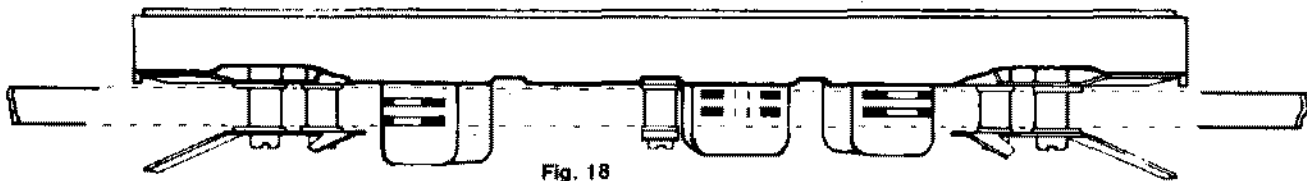

Fig. 18
1. Thread the reproduce alignment tape, Ampex part number 31321-04, on the recorder and adjust the head alignment screws so all plains of the head are perpendicular to the tape. The face of the head must be exactly parallel to the oxide surface of the tape. The brass liners of the head must be visible when looking at the head with tape on the transport. The upper edge of the top pole piece should just come to the upper edge of the tape. See fig. 18.